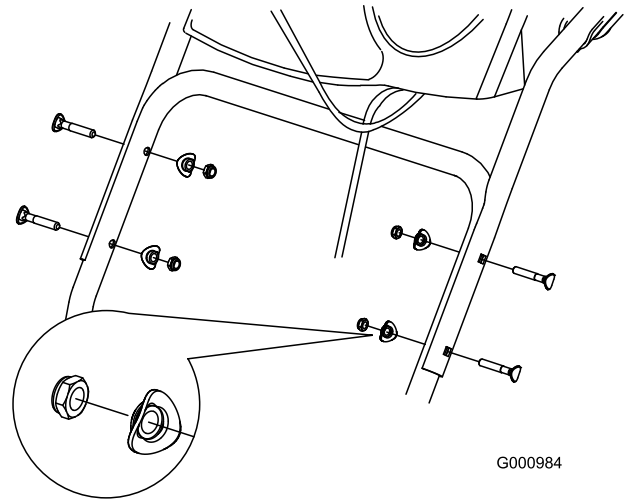

Figure 5
2. Secure the upper handle with 4 handle bolts, 4 curved washers, and 4 locknuts from the loose-parts bag (Figure 5).